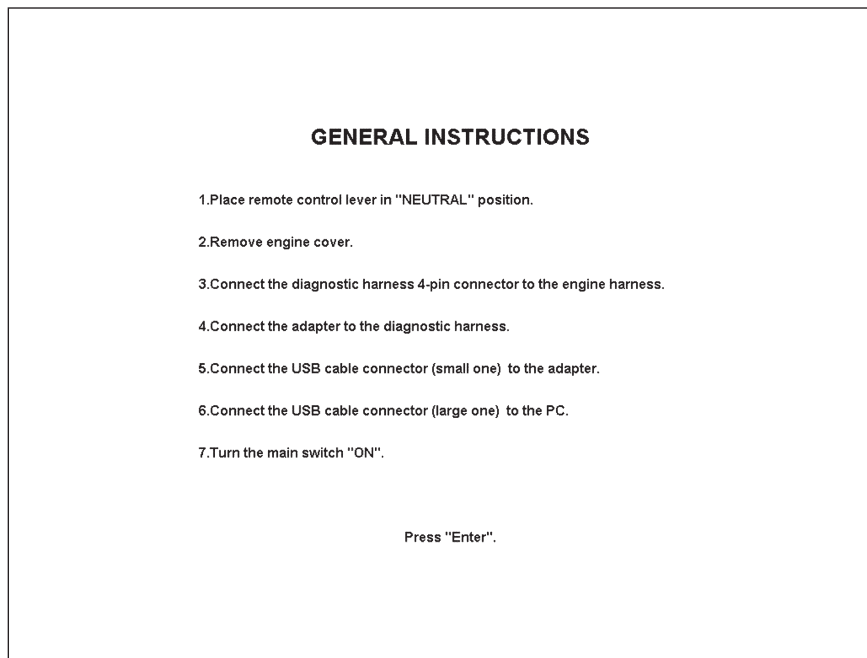

Fig.33
5. Press the “Enter” key to display the next window. (Fig.33)